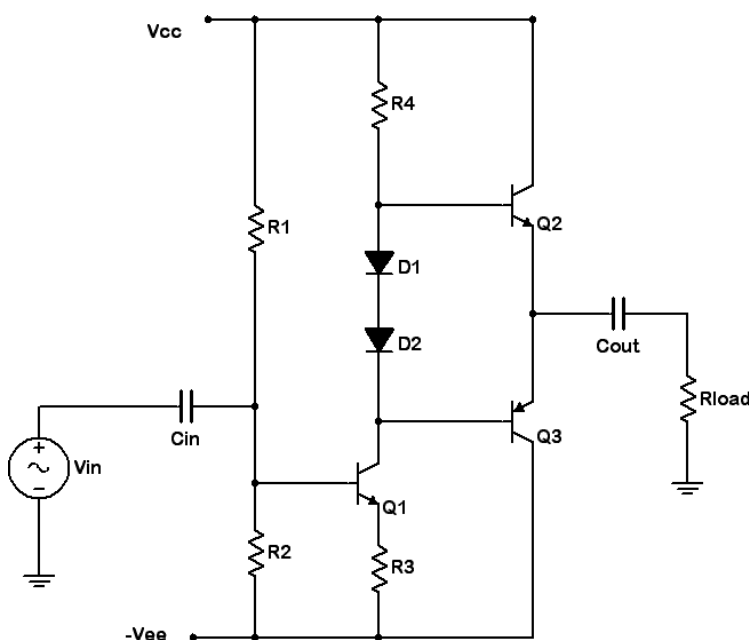

Figure 1
1. Consider the circuit of Figure 1 using  $V_{cc} = 6$  volts,  $V_{ee} = -6$  volts,  $R_1 = 6.8$  k $\Omega$ ,  $R_4 = 1$  k $\Omega$ ,  $R_3 = 100$   $\Omega$ ,  $R_{load} = 100$   $\Omega$ ,  $C_{in} = 1$   $\mu$ F and  $C_{out} = 100$   $\mu$ F.  $R_2$  is an adjustable resistance (pot or decade box). For proper bias, the emitters of the output transistors should be at 0 volts DC. For this to be true there must be a voltage of  $V_{cc} - V_{be}$ , or approximately 5.3 volts, across  $R_4$ .
4. Build the circuit of Figure 1 using  $V_{cc} = 6$  volts,  $V_{ee} = -6$  volts,  $R1 = 6.8\text{ k}\Omega$ ,  $R4 = 1\text{ k}\Omega$ ,  $R3 = 100\Omega$ ,  $R_{load} = 100\Omega$ ,  $C_{in} = 1\text{ }\mu\text{F}$  and  $C_{out} = 100\text{ }\mu\text{F}$ . Set the pot or decade box (R2) to the value calculated in Table 1. Disconnect the signal source and inspect the DC voltage at the load. Adjust R2 until this voltage goes to 0 volts. Record the resulting value of R2 in Table 1.